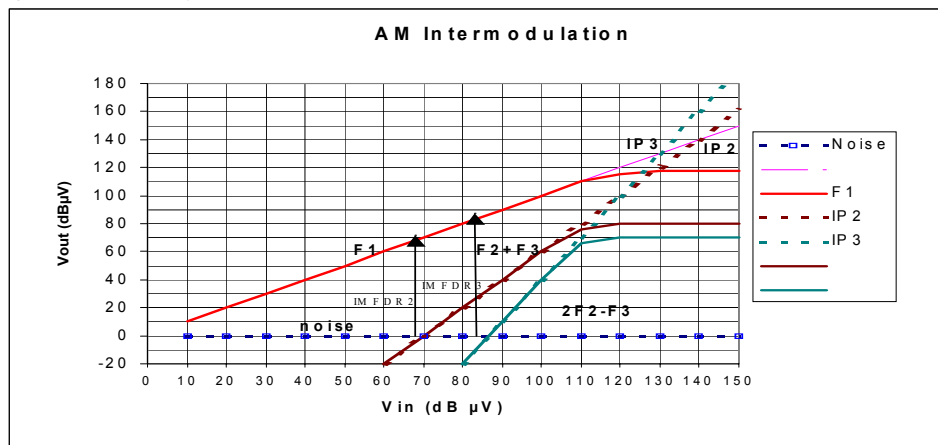

Fig. 28 AM Intermodulation characteristic
**Intermodulation**: Sum and difference freq. reception of 2 strong signals; combinations of freq. cause IP3, cross-modulation related 3rd order non-linearity. The Intermodulation Points: see Fig.28, with IP2 caused by 600 and 800kHz at 1400kHz tuning and IP3 caused by 1040 and 1090 kHz at 990 kHz tuning; as a function of the input voltage at the dummy aerial.